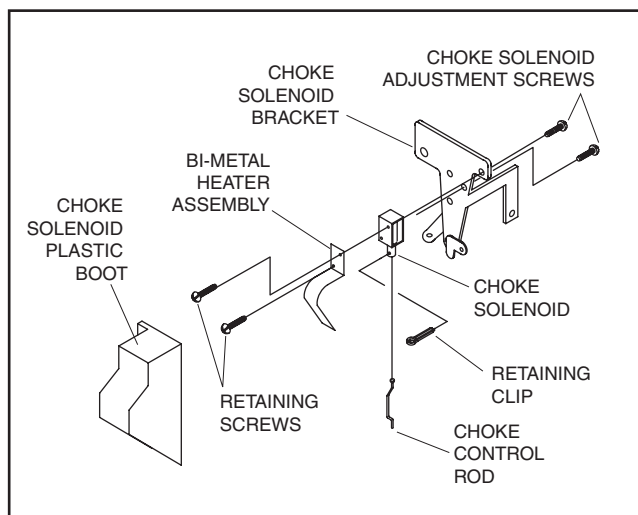

Figure 7-36. – Exploded View of Choke Assembly
2. Pre-Choke Adjustment: With the CHOKE SOLENOID not actuated, the carburetor CHOKE PLATE should be approximately 1/8 Inch from its full open position. Verify choke is completely open once engine is warmed up. If not, power will be down and emissions will be up. Adjust position of BI-METAL HEATER ASSEMBLY by loosening screws until unit starts when cold and the choke is fully open when engine is up to temperature. Tighten the screws to complete the adjustment (see Figure 7-36).